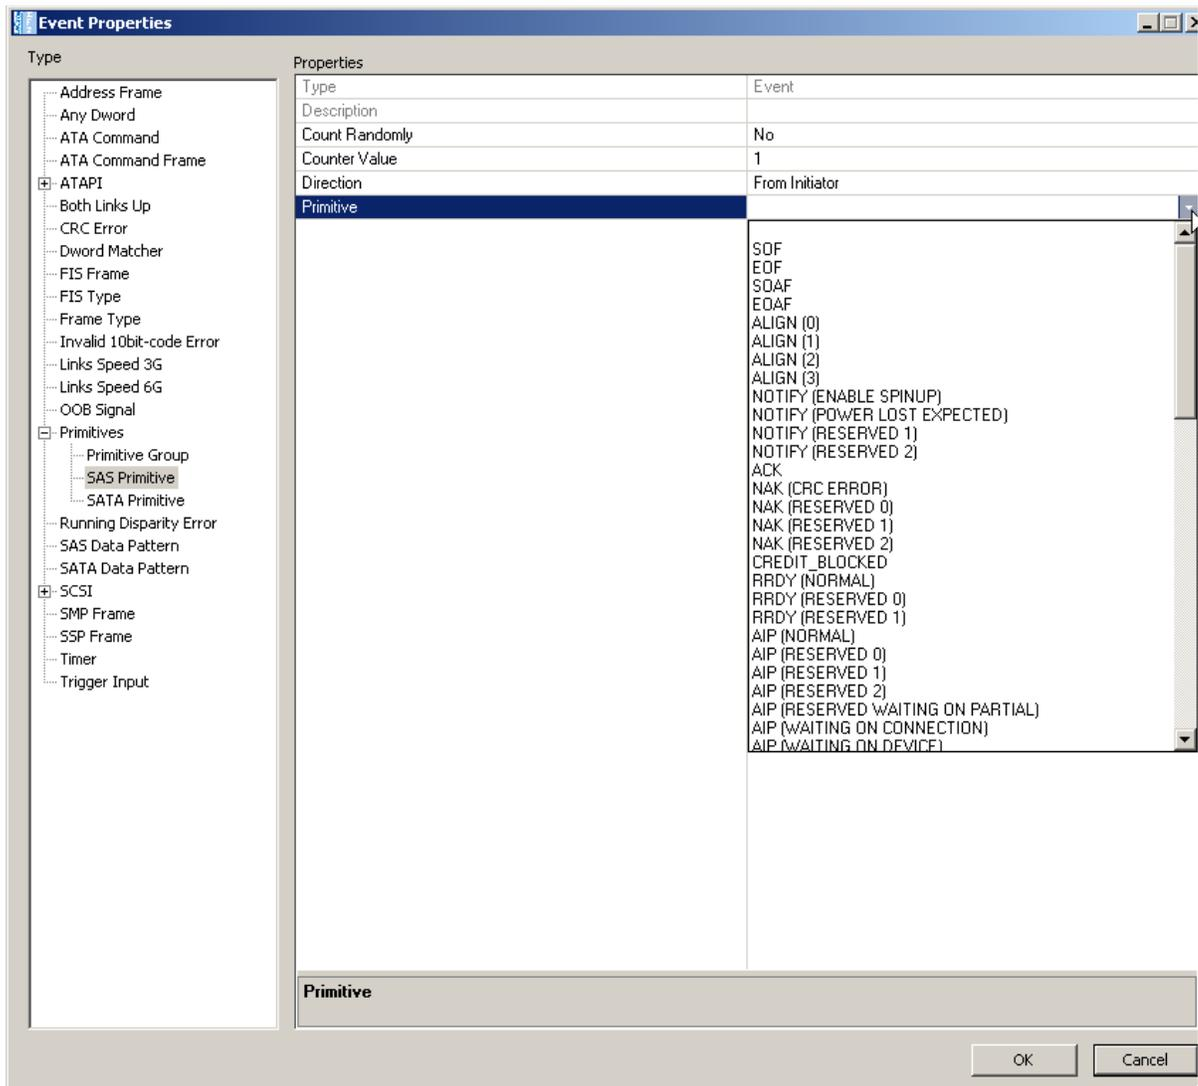

Figure 4.21: Example 1: Event Drop-Down List
7. Still in the middle column of the Event Properties dialog box, click **Primitive** to display a drop-down menu that lets you choose the type of primitive for which to substitute for RRDY (Normal) (see Figure 4.21 on page 259). Choose **ERROR**.